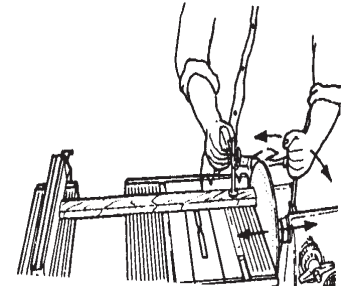

Figure D-19
3. If you're using the quill feed, advance the disc until it contacts the stock. Hold it there for a few seconds, back it off, and feed it forward again. See Figure D-19.